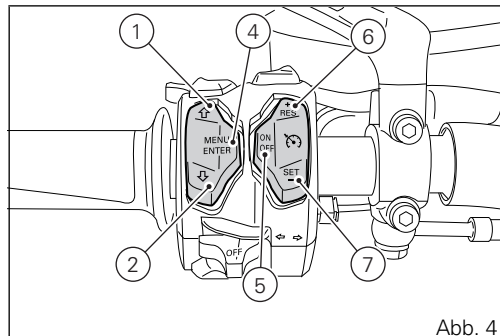

Abb. 4
6) CRUISE CONTROL-TASTE – RES (Resume) / + (more) (Abb. 4)
7) CRUISE CONTROL-TASTE – SET (Setup) / - (less) (Abb. 4)